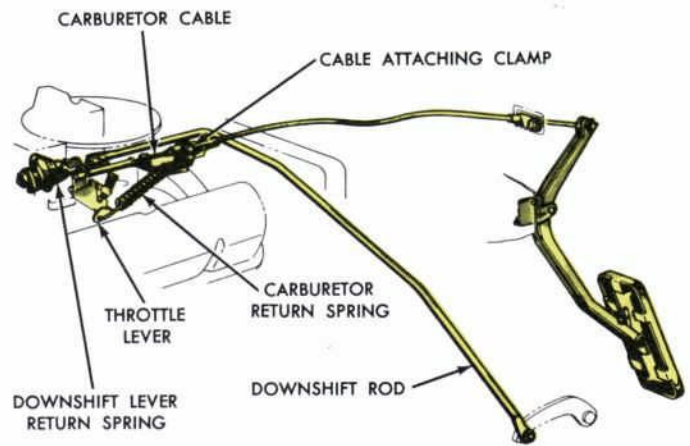

Fig. 85—Ford Throttle Linkage
- ① Disconnect the throttle return springs (Fig. 85).
- ② Loosen the conduit clamp on the carburetor control cable.
- ③ Push the accelerator pedal all the way to the floor and secure it.
- ④ Pull on the cable conduit until the throttle shaft lever is right against the wide-open stop. Tighten the clamp in this position.
- ⑤ Push down on the downshift rod until the lever on the transmission is against its internal stop. Hold the rod down and turn the downshift lever adjusting screw to take up all the clearance at the carburetor throttle shaft lever.
- ⑥ Lock the adjusting screw and release the accelerator pedal. Then connect the return springs.